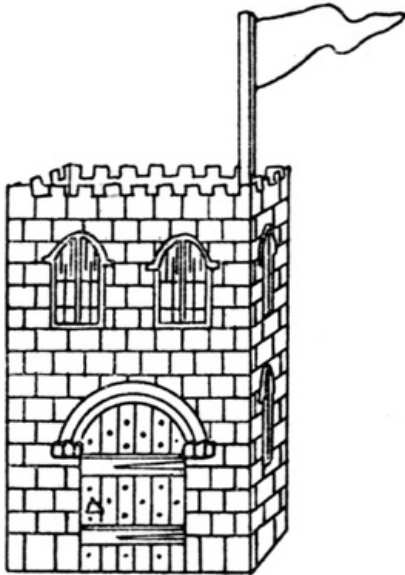

FIG. 84
**A Castle.** A castle can be made from the cover. A piece of paper is cut to fit round it, doors and windows are marked on it with pencil or crayon, and one edge is cut to represent battlements (Fig. 84). The flagstaff is a match glued inside. A larger castle can be made by fastening two or more covers together.